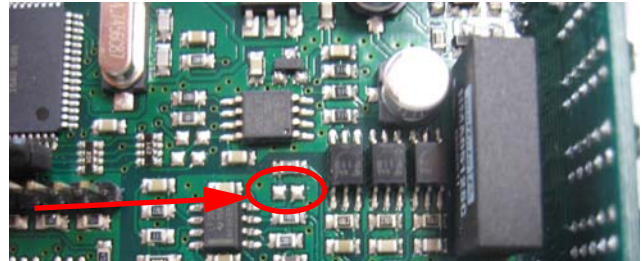

Figure 2-6. Soldered Jumper
- Locate the soldered jumper (SW4), on the circuit board. See Figure 2-6 on page 20.